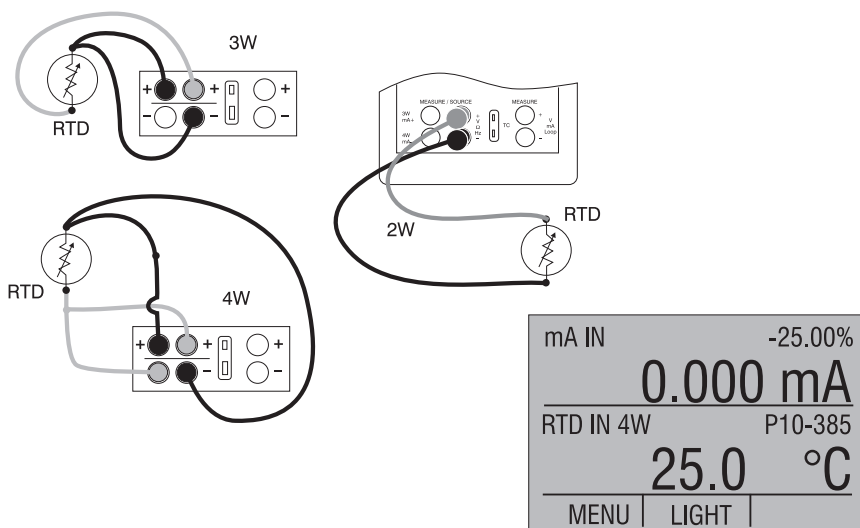

Figure 8. Measuring Temperature with RTD Connection
5. Attach *RTD* leads as shown in Figure 8.